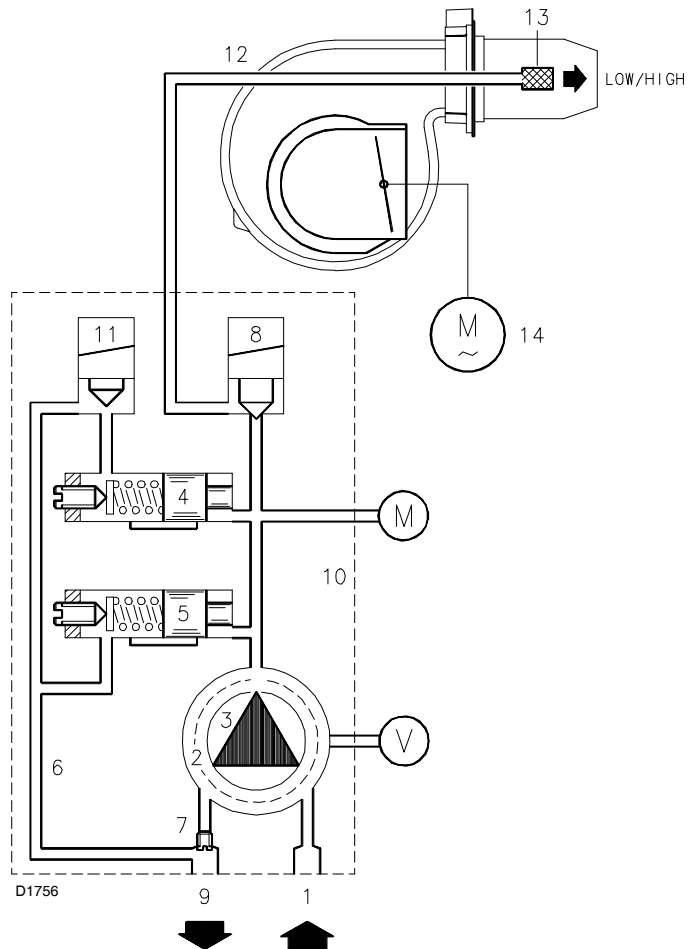

Fig. 25
- When the temperature or the pressure increases until the control device TR opens, solenoid valve 11) (Fig. 25) closes, and the burner passes from the 2nd to the 1st stage of operation.